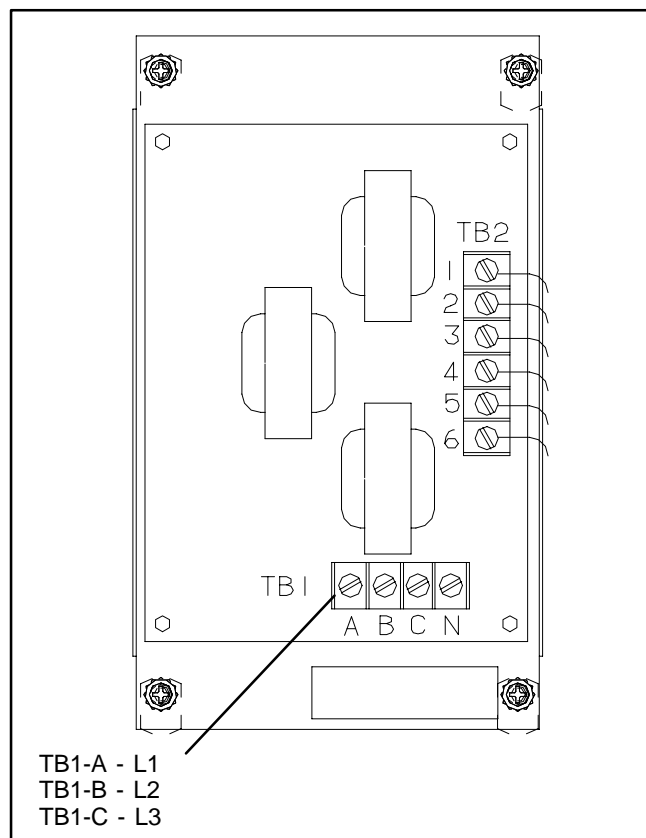

FIGURE 3-9. BUS PT MODULE
2. With all gensets OFF, attach a calibrated voltmeter to TB1-A (L1) and TB1-B (L2) of the bus PT module (Figure 3-9).